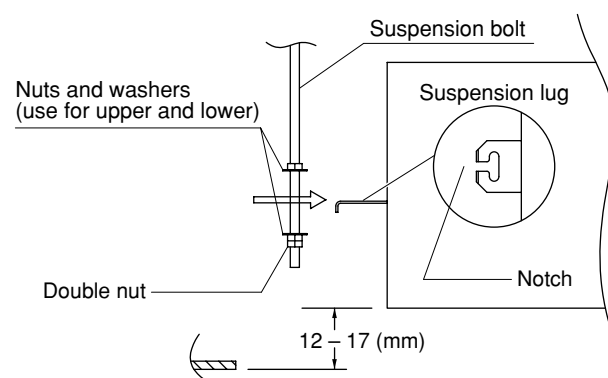

Fig. 3-52
- (3) Thread the 3 hexagonal nuts and 2 washers (field supply) onto each of the 4 suspension bolts as shown in Fig. 3-52. Use 1 nut and 1 washer for the upper side, and 2 nuts and 1 washer for the lower side, so that the unit will not fall off the suspension lugs.
- (4) Adjust so that the distance between the unit and the ceiling bottom is 12 to 17 mm. Tighten the nuts on the upper side and lower side of the suspension lug.
- (5) Remove the protective polyethylene used to protect the fan parts during transport.